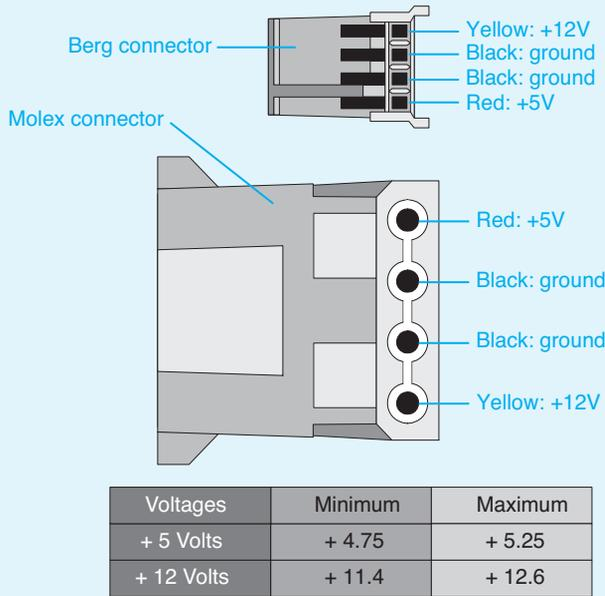

Figure 4.39 Molex and Berg power connectors
7. Check the +5 volt DC output from the power supply by placing the meter's *black* lead in (if the connector is a Molex) or on (if the connector is a Berg) one of the grounds* (a black wire). Place the meter's *red* lead on the +5 volt wire (normally a red wire) in or on the connector. Consult Figure 4.39 for the layout of the Molex and Berg power supply connections. Figure 4.39 also contains a table with the acceptable voltage levels.
8. Check the +12 volt DC output by placing the meter's *black* lead in (if the connector is a Molex) or on (if the connector is a Berg) one of the grounds. Place the meter's *red* lead on the +12 volt wire in or on the connector. See Figure 4.39 for the layout of the Molex and Berg power supply connections. The figure also contains a table with acceptable voltage levels. Write the voltage level found for the +12 volt wire in Table 4.12.